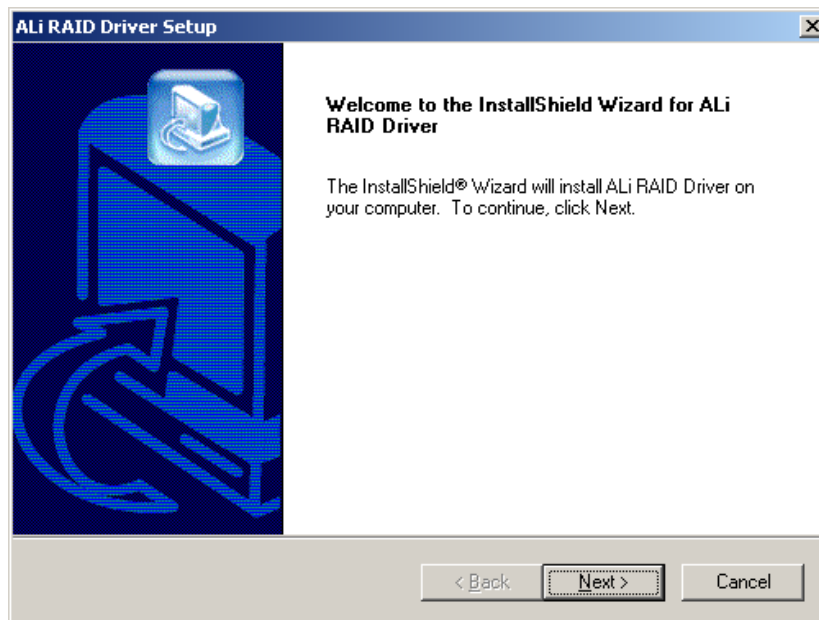

Figure 6-26: RAID Driver Install Wizard Welcome Screen
Step 3: Once initialized, the **Install Wizard welcome screen appears (Figure 6-26)**.